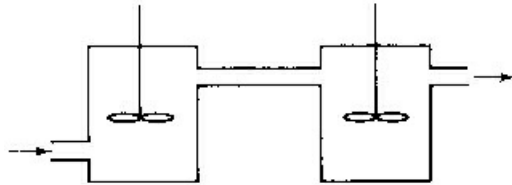

Figure P11.3.12
- 11.3.12** Suppose that you have two tanks in series, as diagrammed in Figure P11.3.12. The volume of liquid in each tank remains constant because of the design of the overflow lines. Assume that each tank is filled with a solution containing 10 lb of A, and that each tank contains 100 gal of aqueous solution of A. If freshwater enters at the rate of 10 gal/hr, what is the concentration of A in each tank at the end of 3 hr? Assume complete mixing in each tank and ignore any change of volume with concentration.